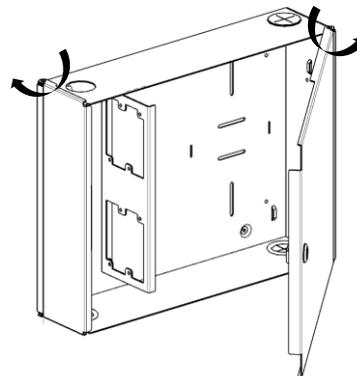

Fig.2
- Open the second Door as shown(Fig.2).